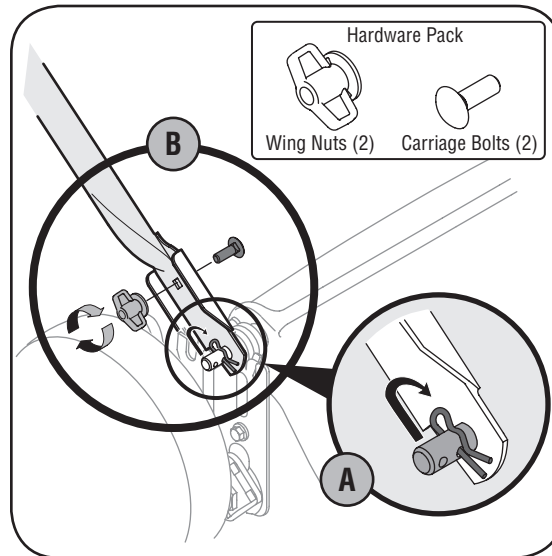

Figure 3-2: Secure lower handle to mounting brackets.
- a. Remove hairpin clip from this hole. Using a pair of pliers, insert hairpin clip into the hole on pin closest to the bracket. See Figure 3-2. Repeat on other side.
- b. Insert a carriage bolt from the hardware pack into the upper hole on the handle mounting bracket as shown in Figure 3-2. Secure with one plastic wing nut, also included in the hardware pack. Repeat on other side.